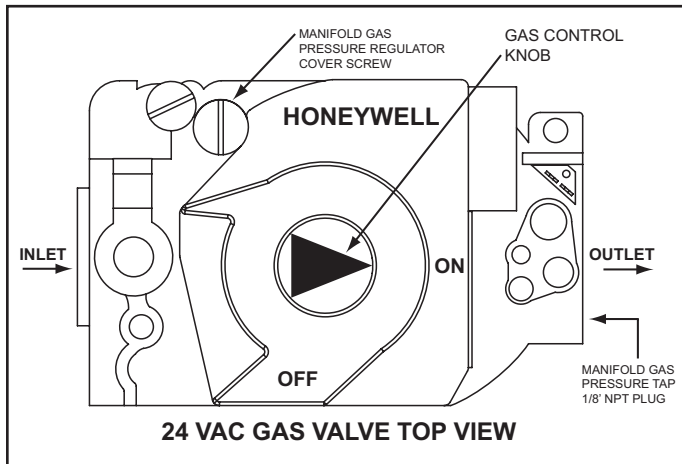

Figure 56
4. Push in the gas control knob slightly and turn to the "off" position, see Figure 56 on page 51.
5. Wait five (5) minutes for any residual gas to clear.
7. Connect one manometer (lower range) to the manifold gas pressure tap at the outlet of the 24 VAC Gas Valve, see Figure 56 on page 51 for location.
1. Push in the gas control knob slightly and turn to the "on" position, see Figure 56 on page 51.
- Remove the manifold gas pressure regulator cover screw, see Figure 56.
3. Push in the gas control knob slightly and turn to the "off" position, see Figure 56 on page 51.